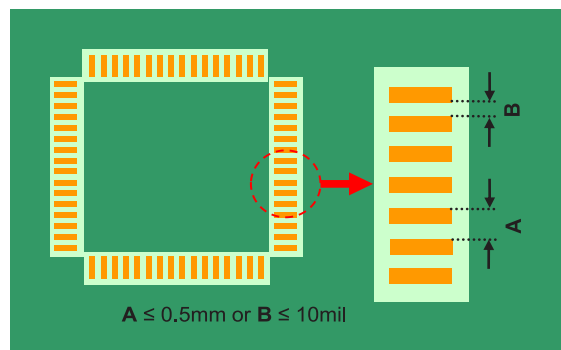

Figure 24: Solder mask openings for fine pitch SMD components.
- [44] Groups of SMD pads less than 0.5mm (20mil) apart or less than 10mil between the pad edges do not need solder mask to separate them and can be opened as a group. See figure 24.